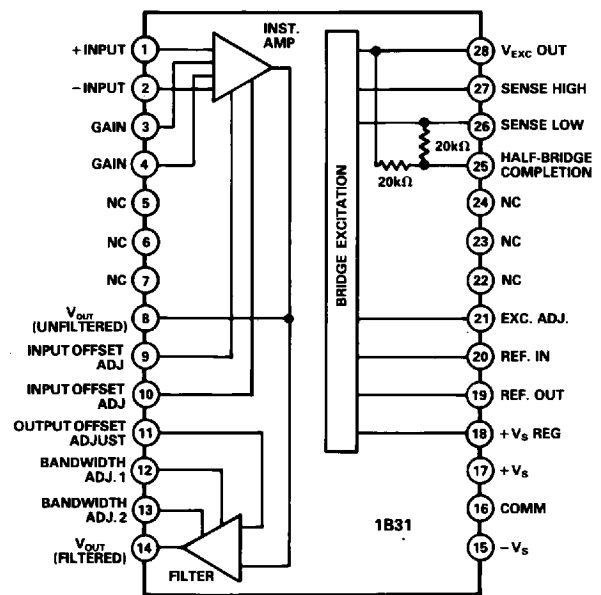

Figure 1. Block Diagram and Pinout
Model 1B31 is based on a two-stage amplifier design and an adjustable voltage regulator section, as shown in Figure 1. The front end is a low noise, low drift, instrumentation amplifier (IA) that is optimized to amplify low level transducer signals (from 2mV full scale) riding on high common-mode voltage (±9.5V). The gain of the IA is programmed by a single resistor (1V/V to 2500V/V) and the input offset nulled out by an external potentiometer across the offset adjust Pins 9 and 10. The inverted signal (V_{-INPUT} - V_{+INPUT}) is brought out to Pin 8 for applications such as vibration and torque testing where the unfiltered output is required.